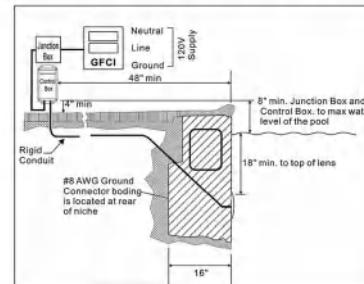

Figure 2
2. Drill 1 hole on the flat place you intend to mount the pool light, use 1 expansion screw to fix the light. treat the light with silicon around the light.(you may need to cut off the bolt that is for wet niche install.) See Figure 2